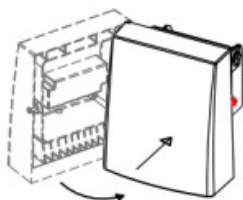
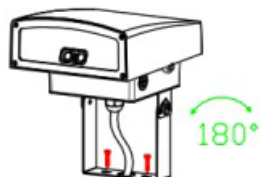

FIG. 12
FIG. 13
3. Lock the enclosure (FIG.12), mount the trunion on mounting surface, direction could be adjusted (FIG.13, 14).